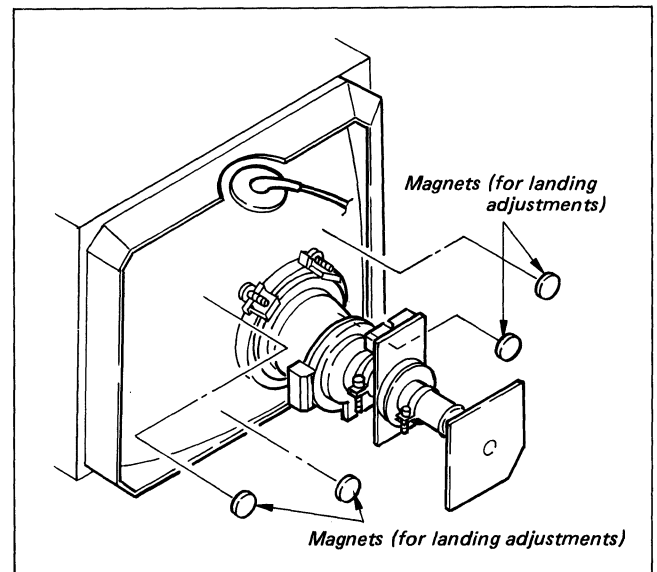

Fig. 2-5-1
- 6) Attach magnets on the panel side if necessary as shown in Fig. 2-5-1. (Do not exceed one magnet per corner.)